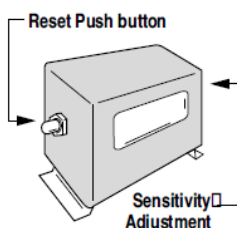

Figure A-48: Vibration switch detail
- Press the reset push button to engage the magnetic latch. To be sure the magnetic latch has engaged, observe latch through the window on the Vibration switch (see Figure A-48)